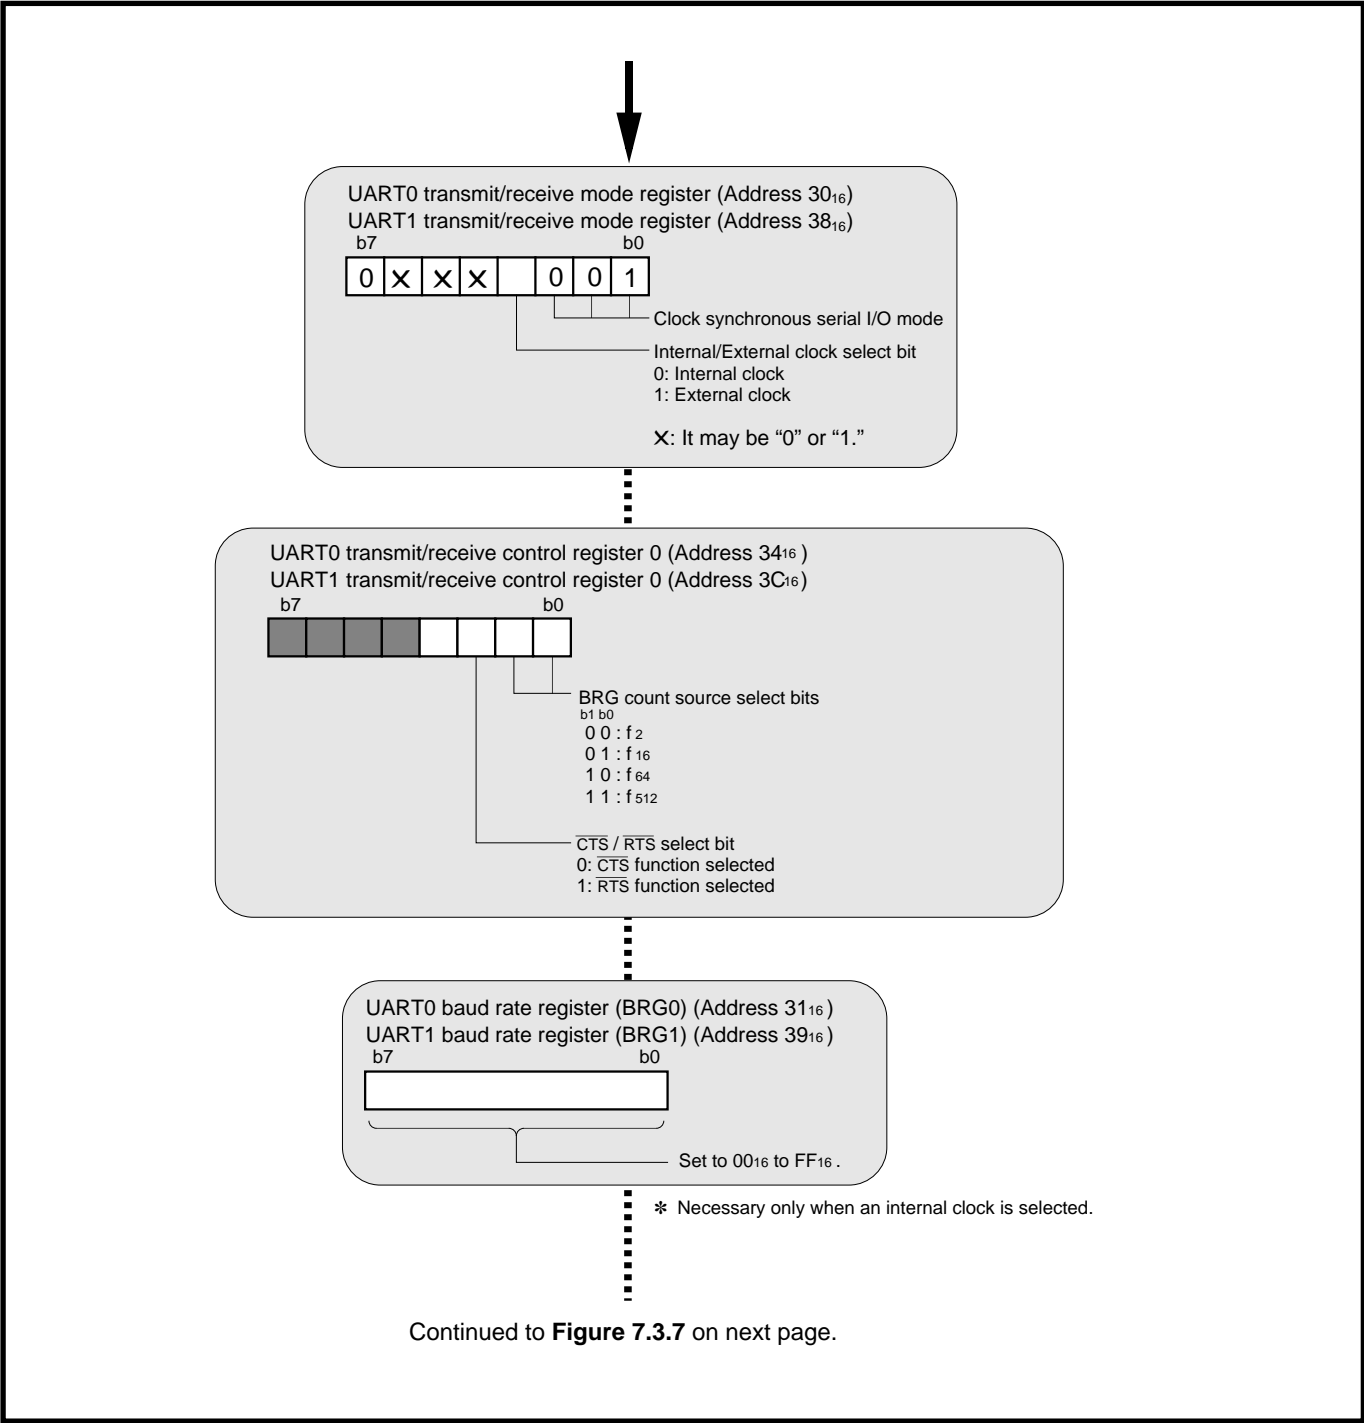

Fig. 7.3.6 Initial setting example for relevant registers when receiving (1)
Figures 7.3.6 and 7.3.7 show initial setting examples for relevant registers when receiving. Reception is started when all of the following conditions (① to ③) are satisfied. When an external clock is selected, satisfy conditions ① to ③ with the following precondition satisfied.
From preceding **Figure 7.3.6**